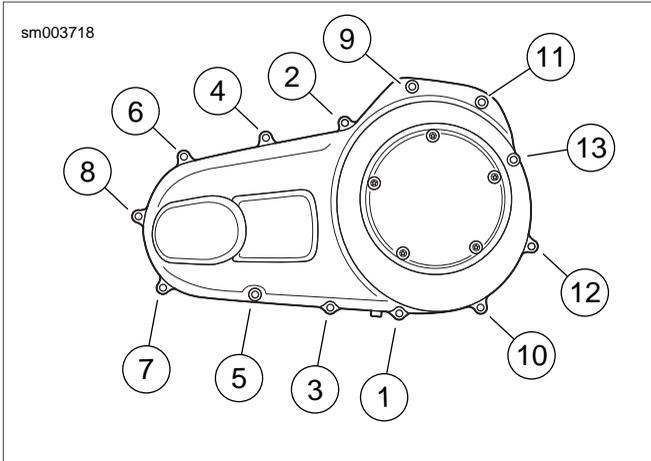

Figure 6-3. Primary Chaincase Cover Torque Sequence: Touring Models
3. See Figure 6-3. Tighten primary cover fasteners (1-13) to 108-120 **in-lbs** (12.2-13.6 Nm) in the sequence shown.